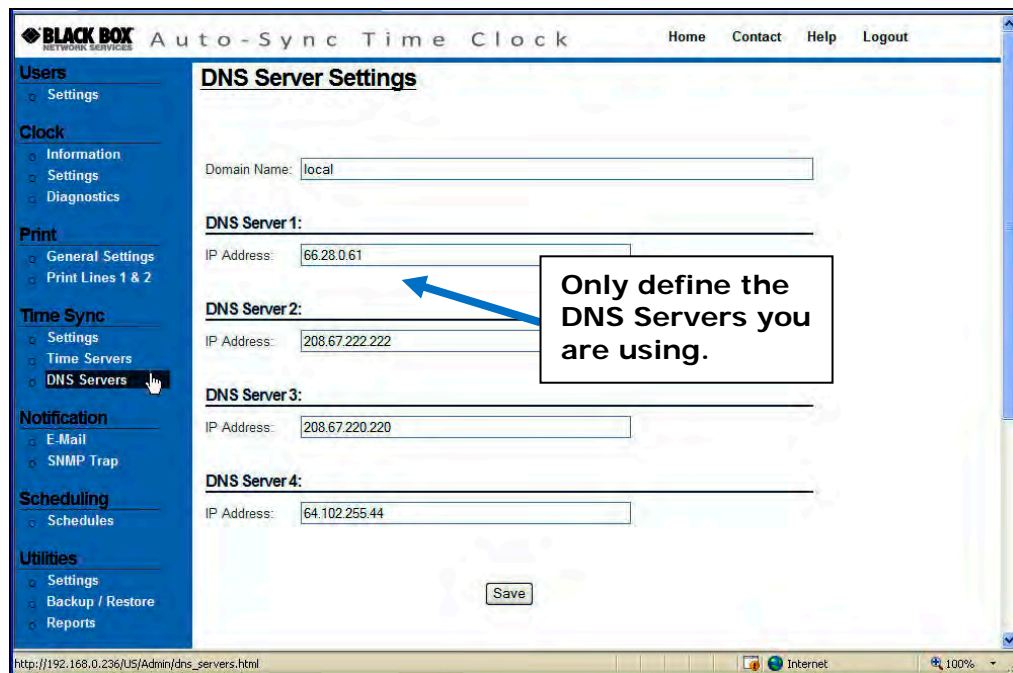

Figure 4-14. DNS Server Settings.
1. Click on the **DNS Servers** link under *Time Sync*, and the **DNS Servers Settings** screen will appear displaying the four (4) default public DNS servers (see *Figure 4-14*).